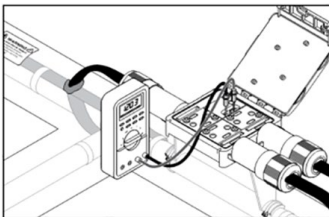

Figure 26:
**Note:** Readings can be taken at a previously installed RayClic power, splice, tee or cross connection by using the test ports available inside the component (see figure 26). Testing at a RayClic will only confirm continuity to the previous components; it will not verify continuity to the cable end seal.